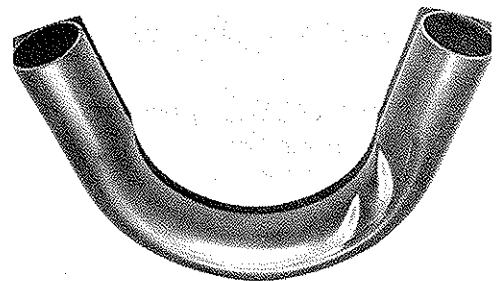

Figure 3
3. Crimping or wrinkling of pipe on inside of bend (see Figure 3).